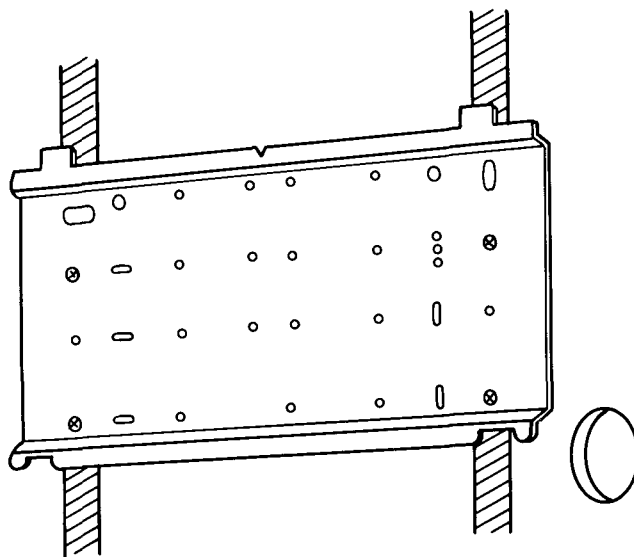

Fig. 3 — Mounting on Wall Studs
2. Locate studs in wall. Fasten mounting bracket *level* (use carpenter's level) on wall using 6 one-in. mounting screws. See paper pattern for locations of screw holes. First begin holes in walls and studs for screws. Insert field-supplied screw anchors if studs are not used. See Fig. 3.